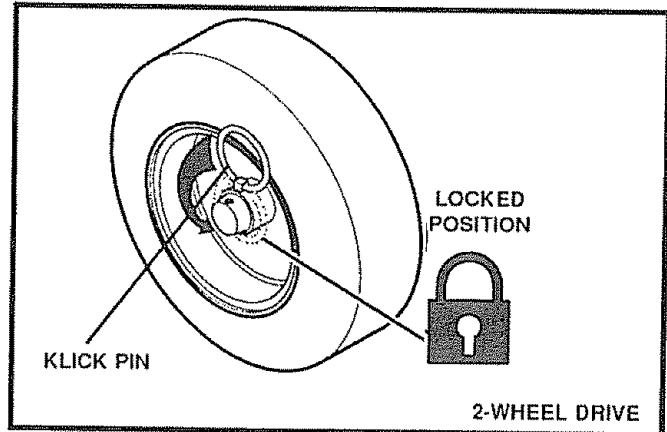

FIG. 12A
- The left hand wheel is secured to the axle with a klick pin (See Fig. 12A) This unit was shipped with this klick pin in the locked (through wheel hole) position.